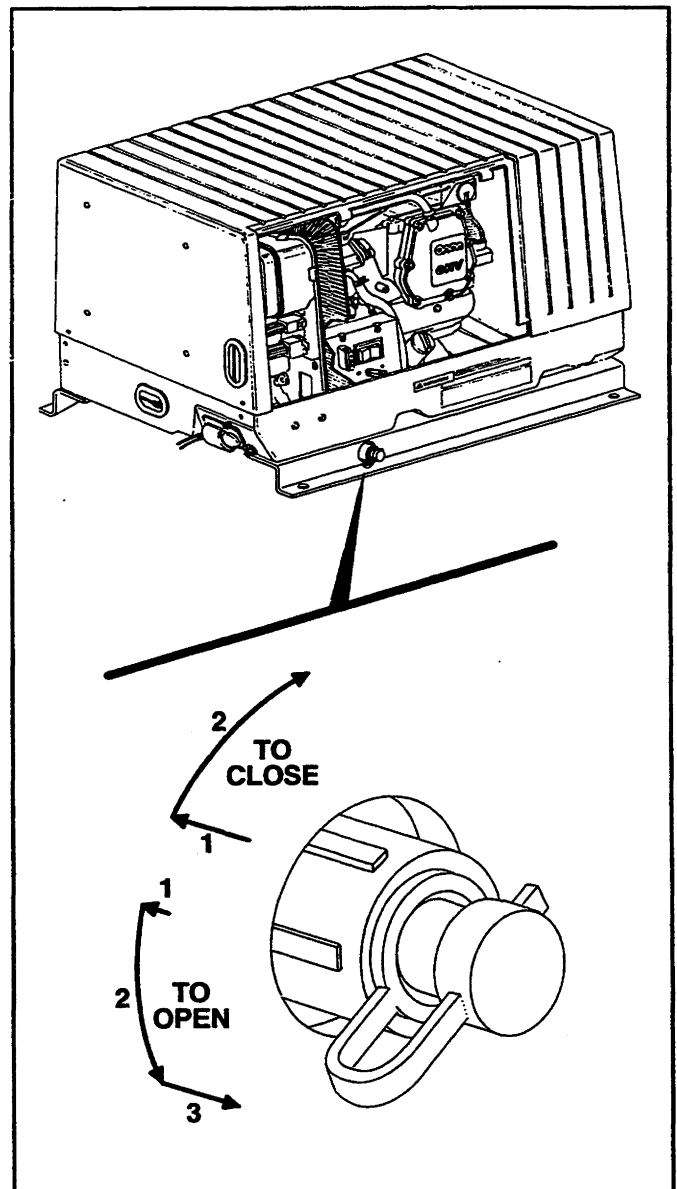

FIGURE 8. OIL DRAIN VALVE
1. Remove the cap and attach a 1/2 inch plastic or rubber hose to the nozzle on the end of the oil drain valve (Figure 8) and direct the other end of the hose into a container, such as a one gallon plastic milk carton, in which the oil can be transported for disposal.